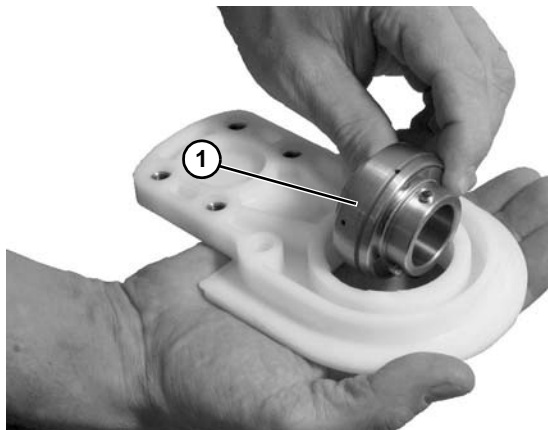

Figure 55
2. Twist the bearing out (**Figure 55, item 1**).